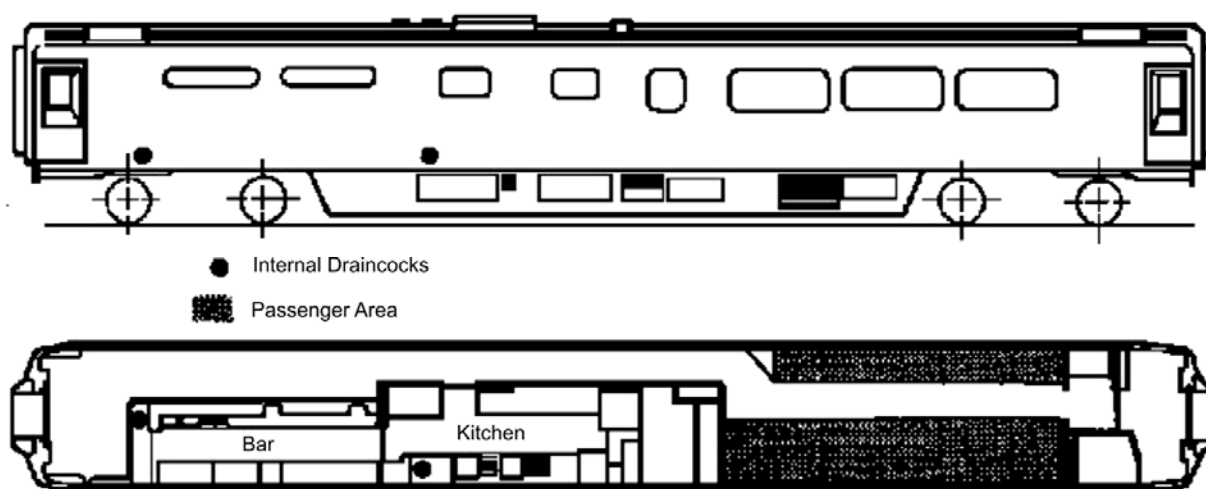

Figure 2.1: Location of Catering Water Drain Cocks TRFB
1. Drain the catering water tanks and boiler - see Figures 2.1 – 2.3 for TBRF, TRFB and TCC.